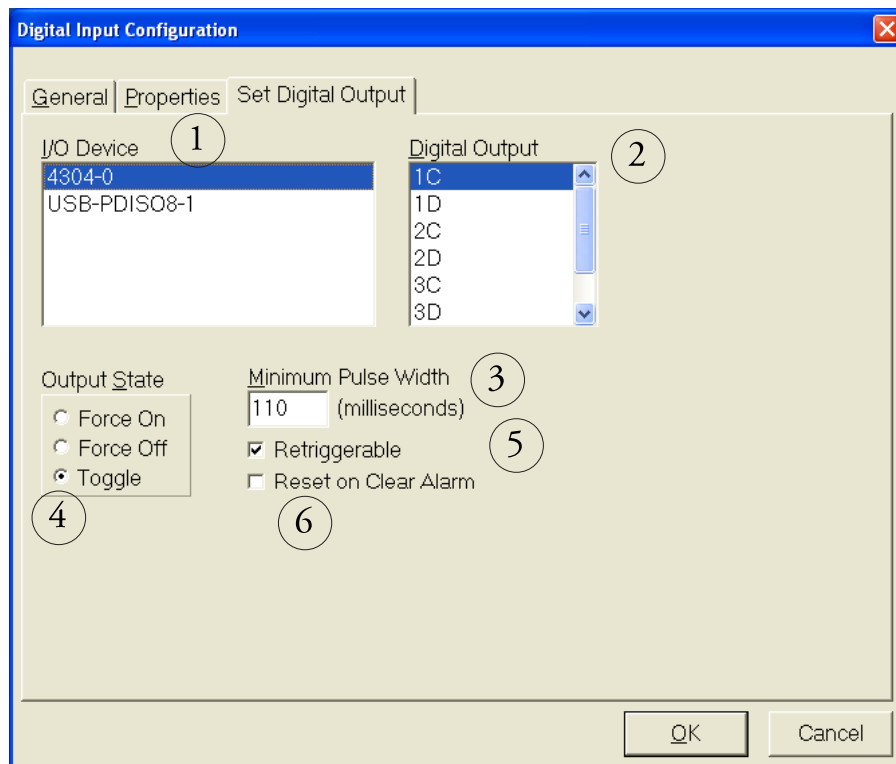

Figure 32. Digital Input Configuration panel—Set Digital Output
- 3.6.1 Enter a messages for **each** action that you define (*Part 2 in Figure 32*).